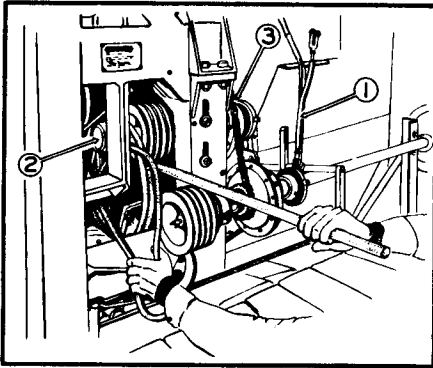

Figure 27 Removing V-Belts
Remove the shields which cover the friction clutches and the V-belts. Remove the clutch shifter (1), Figure 27, and follow the same procedure as on Page 8 under "Removal of Driving Plates from Hoist Reverse Drive Clutch" of "Repair Section."
Remove the shield and clutch shifter (1), Figure 27, and follow the same procedure as on Page 8 under "Removal of Driving Plates from Hoist Reverse Drive Clutch" of "Repair Section."
Remove the rear shield and both shields that cover the friction clutches and the V-belts. Remove the clutch shifter (1), Figure 27, the chain (3) and the V-belts from both sheaves by slacking off on the belt adjustments. Remove the countershaft bearing bolts and remove the shaft assembly.
Remove the shield and clutch shifter (1), Figure 27, and follow the same procedure as on Page 8 under "Removal of Driving Plates from Hoist Reverse Drive Clutch" of the "Repair Section."
Remove the shields which cover the friction clutches and the V-belts. Remove the clutch shifter (1), Figure 27. Loosen the bearing bolts and adjust the shaft downward to its bottom position. Remove V-belts, bearing bolts, and lift out the shaft assembly.